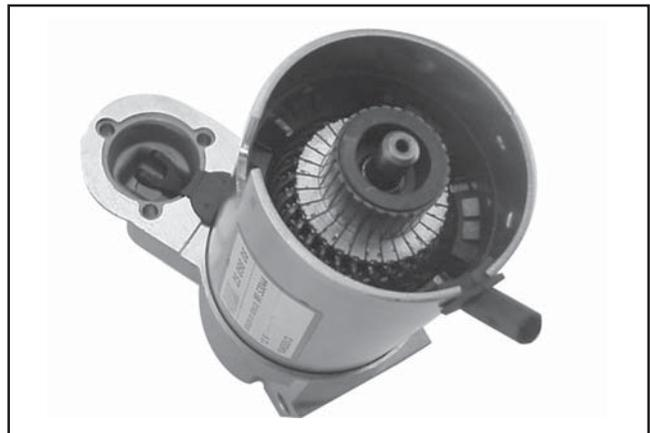

Figure 8-36. Installing Frame and Drain Tube.
8. Install the frame, with the small notch forward, onto the armature and drive end cap. Align the notch with the corresponding section in the rubber grommet. Install the drain tube in the rear cutout, if it was removed previously. See Figure 8-36.